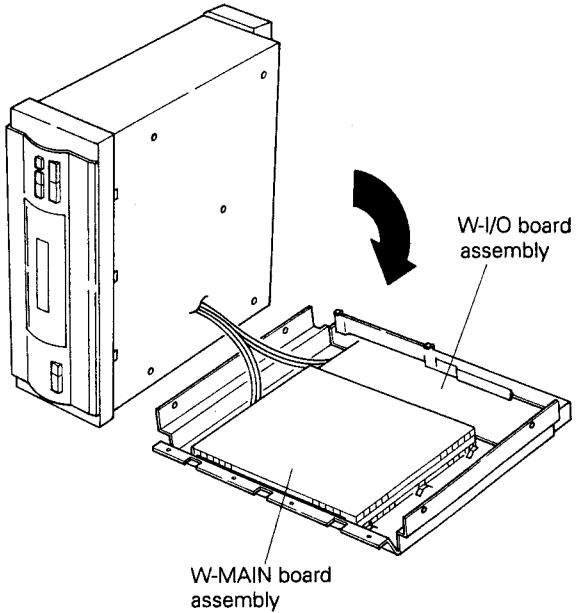

Fig. 1-3C Base plate 2
5. On detaching the base plate, place it as shown in Fig. 1-3C since it is internally fitted with the W-MAIN board and the W I/O board.